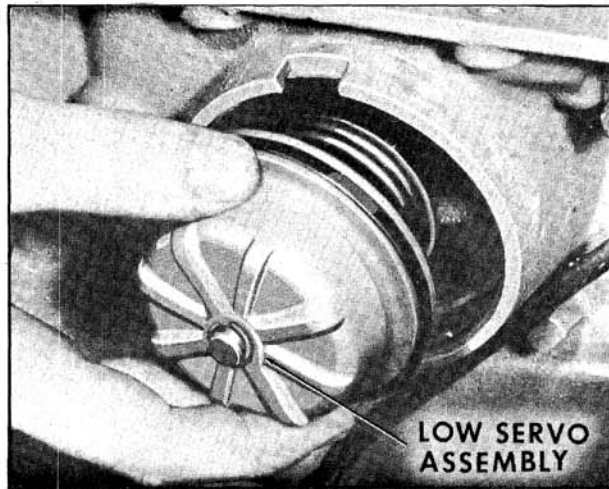

Fig. 6-360 Removing Low Servo Piston
5. Remove low servo piston assembly from case. (Fig. 6-360)